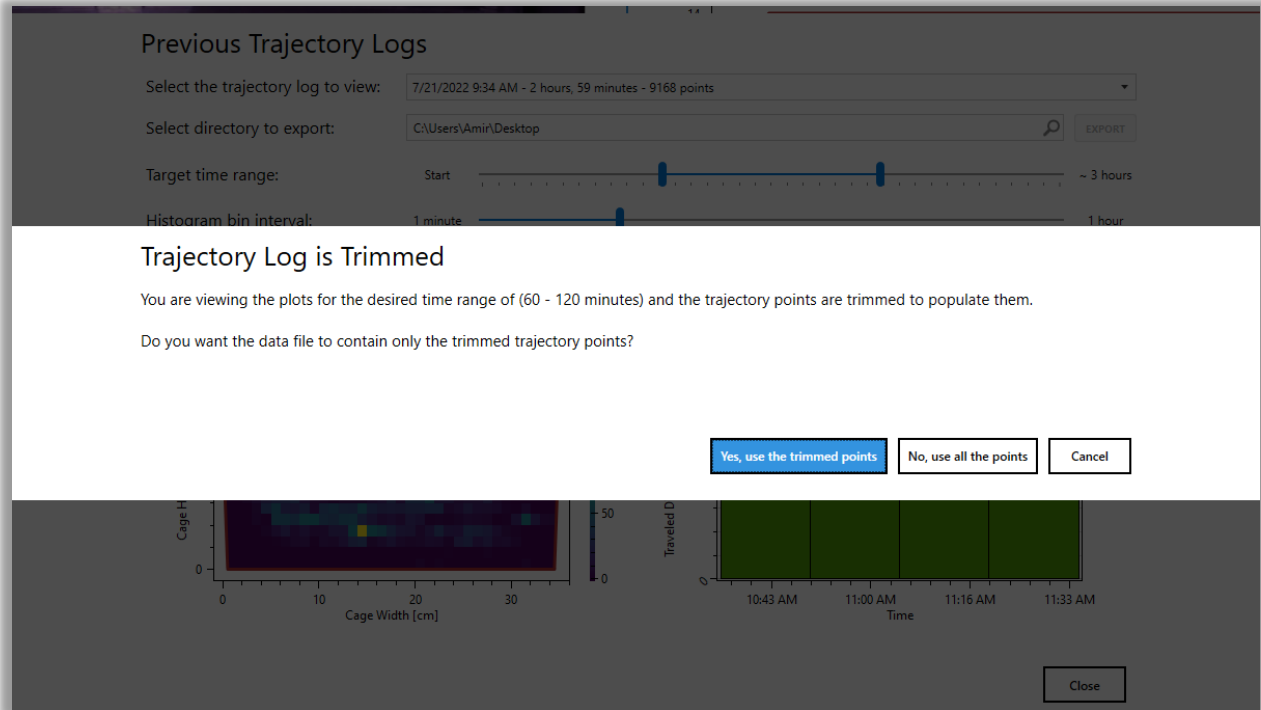

Figure 40. Export Trimming Confirmation Dialog
7.5.4. After customizing the trajectory points to export, where the target time range is trimmed, a dialog will pop up to give the user an option to export only the trimmed points or export all the existing points in the trajectory log (**Figure 40**).